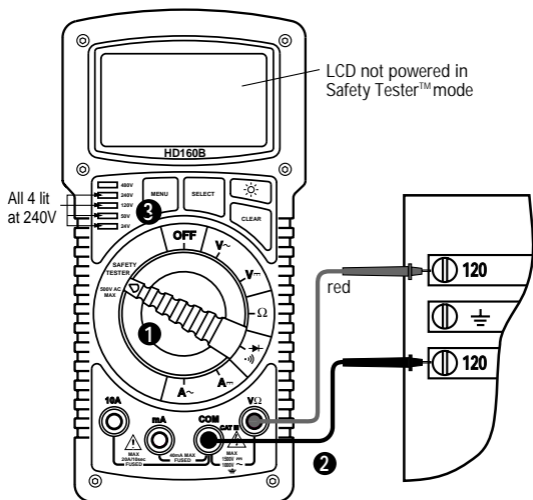

Fig. 1
SAFETY TESTER™ (See Fig. 1)
① Connect test leads as shown in figure 1. ② Turn function selector switch to $V \sim$ or $V =$. ③ Touch Probe tips across voltage source (in parallel with circuit). ④ Voltage value will appear on Digital Display along with the voltage polarity (for DC).